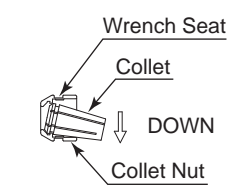

Fig. 5
- ② The collet and collet nut are secured by a groove in the collet and a flange in the collet nut. To remove the collet hold the collet nut in one hand and push diagonally down on the collet. The collet should be released (Fig. 5).